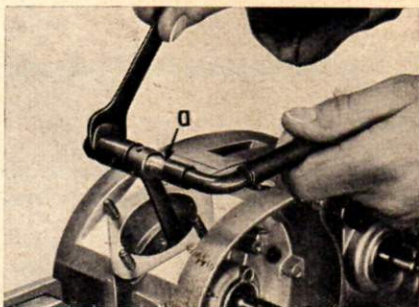

Fig. 51 Extracting and inserting connecting rod bushes VI / 57 / 630
1. Force out the old bush with the extracting and replacing tool illust. in fig. 51. Fit the new bush into this tool so that it can be pressed in simultaneously.